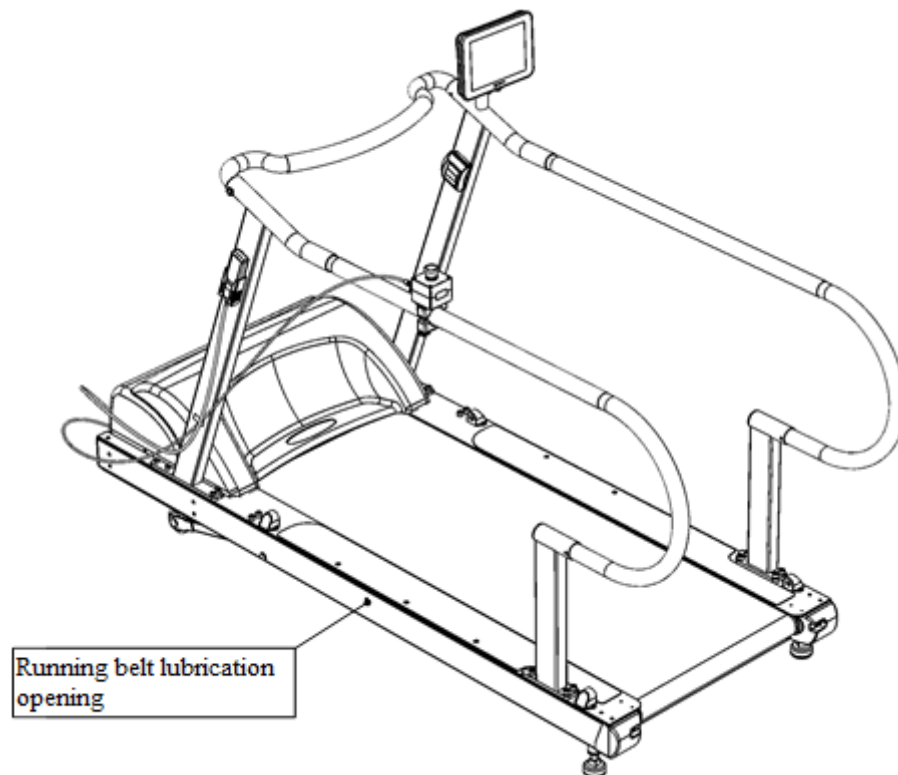

Figure 45 - Location of the running belt lubrication hole
- Place the syringe silicone tube into the hole on the side surface of treadmill (see Figure 45). The silicone tube should be inserted in the hole at full length.